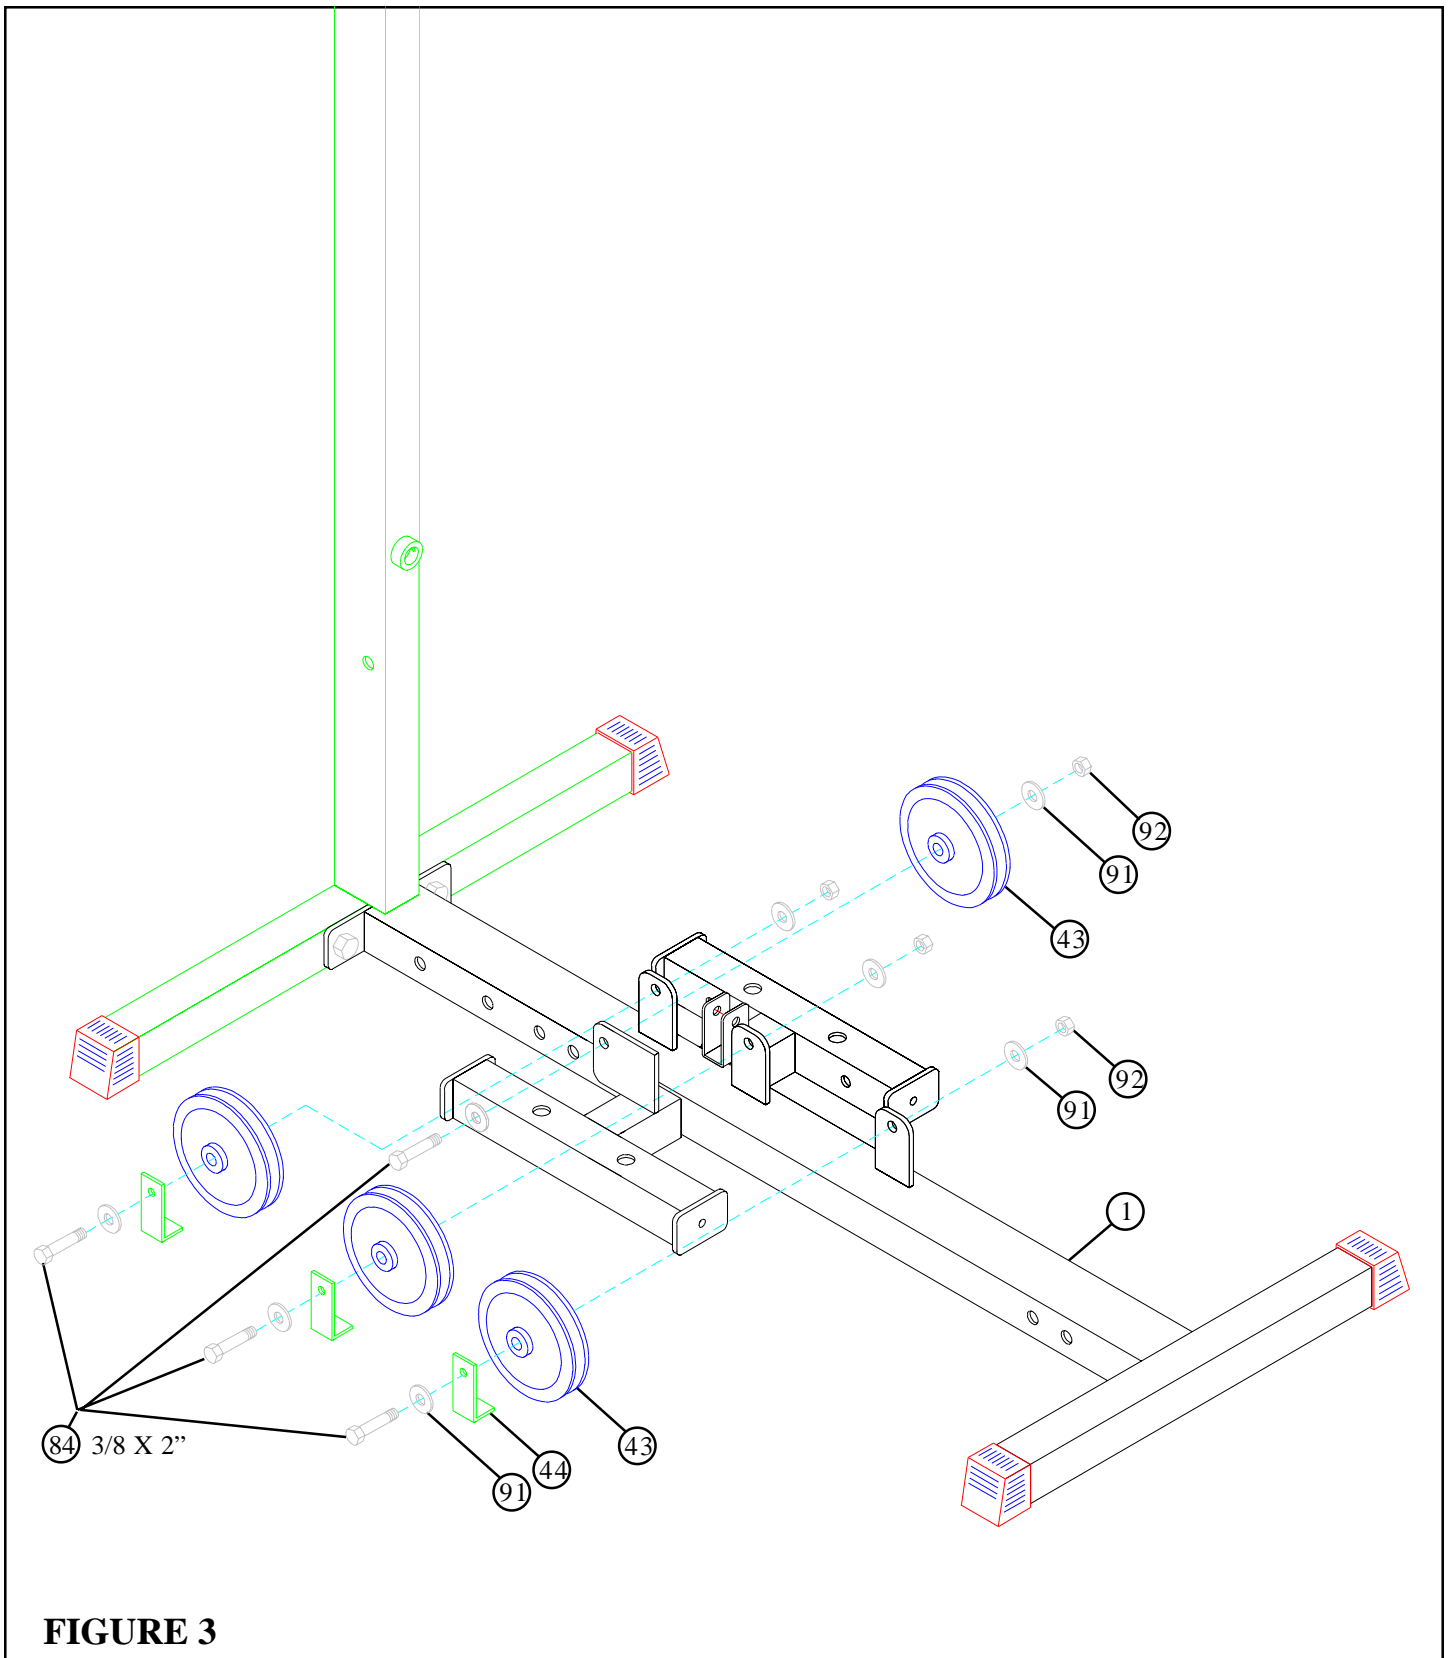

FIGURE 3
- **SECURELY** assemble three 4-1/2" PULLEYS (43) to the upper flats on the BASE (1) using three 3/8 X 2" BOLTS (84), six 3/8" WASHERS (91), three 2-7/8" L-BRACKETS (44), and three 3/8" LOCK NUTS (92). See FIGURE 3.
- **SECURELY** assemble one 4-1/2" PULLEY (43) to the lower flat on the BASE (1) using one 3/8 X 2" BOLT (84), two 3/8" WASHERS (91), and one 3/8" LOCK NUT (92). See FIGURE 3.